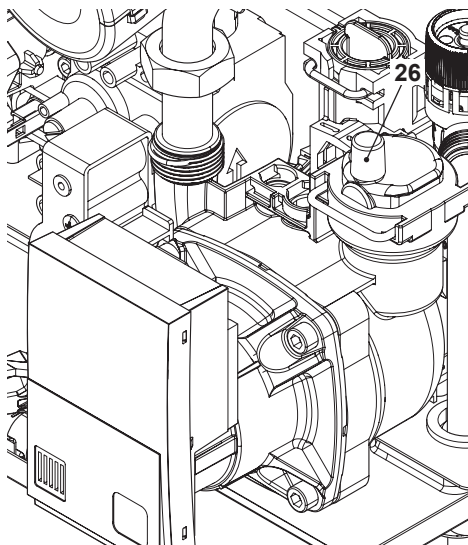

Fig. 7.2
- Loosen the cap on the automatic air purger valve 26 in Fig. 7.2 and leave open permanently.